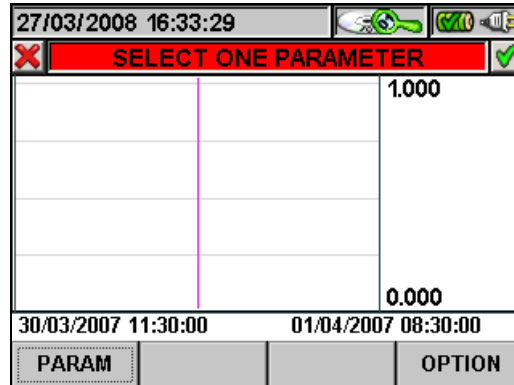

Fig. 98: Selecting a parameter
- The **ESC** key (or smart icon) to exit the function and go back to the “Selecting a parameter” page (Fig. 98).
- The **ESC** key (or smart icon ) to exit the function and go back to the “Selecting a parameter” page (Fig. 98).
3. Press the **ESC** key (or the smart icon ) to exit the function and go back to the “Selecting a parameter” page (Fig. 98).